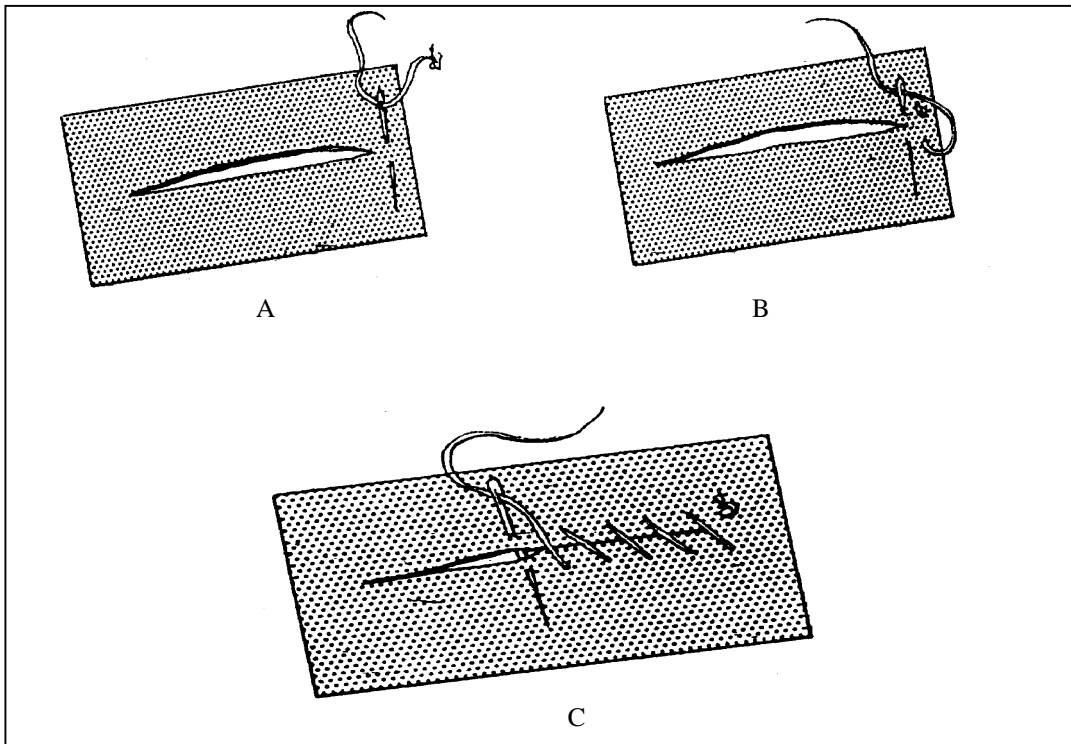

Figure 2-7. Stoating stitch
d. **Stoating Stitch.** The stoating stitch (Figure 2-7) is used to repair a clean-edge cut or tear in thick fabric. The stitches do not penetrate the fabric completely, so the repair does not show on the right side. To make a row of stoating stitches--
(1) Turn the fabric so that the wrong side is up, and stick the needle into the thickness of the fabric 1/4 inch from the end of the tear.
(2) Backstitch to tack the row at the beginning. Do not penetrate the cloth completely.
(3) Make a vertical stitch, coming up 1/16 inch away from the bottom edge of the tear. Do not penetrate the fabric.
(4) Working diagonally, stitch the needle into the fabric 1/16 inch away from the top edge of the tear.
(6) Continue to pass the needle over the tear diagonally and down through the tear vertically. Draw up all stitches firmly.
(7) Stop 1/4 inch beyond the end of the tear.
(8) Backstitch to tack the row at the end.
(9) Make a knot in the thread close to the cloth, and cut off the remaining thread.